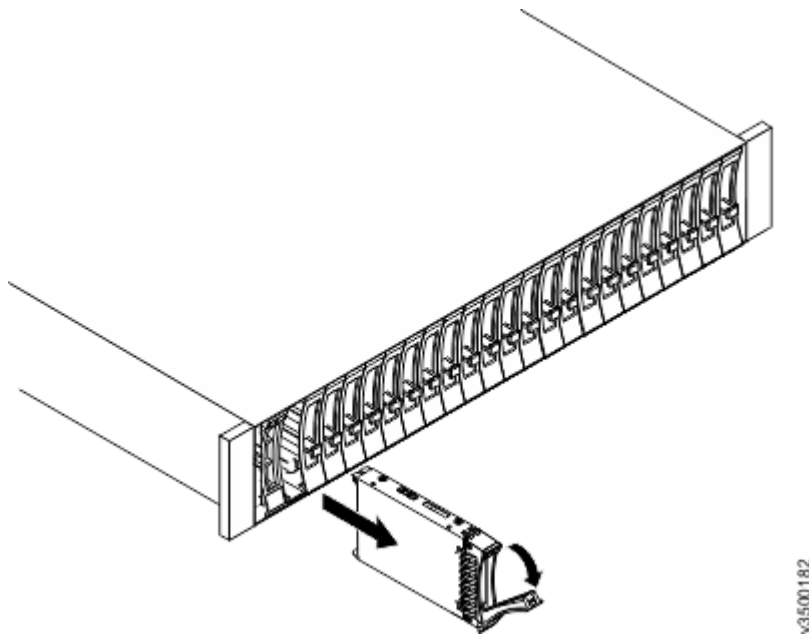

Figure 89. Unlocking and removing a 2.5-inch drive from its slot
5. Pull out the tray handle to the open position (see Figure 89 on page 151).